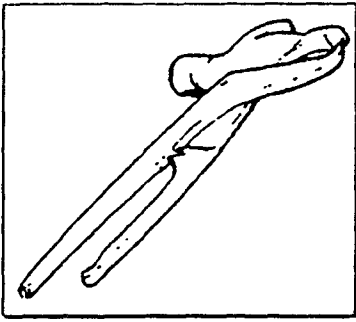

Fig.5
**#10006452 Weight pliers (Fig.5).**